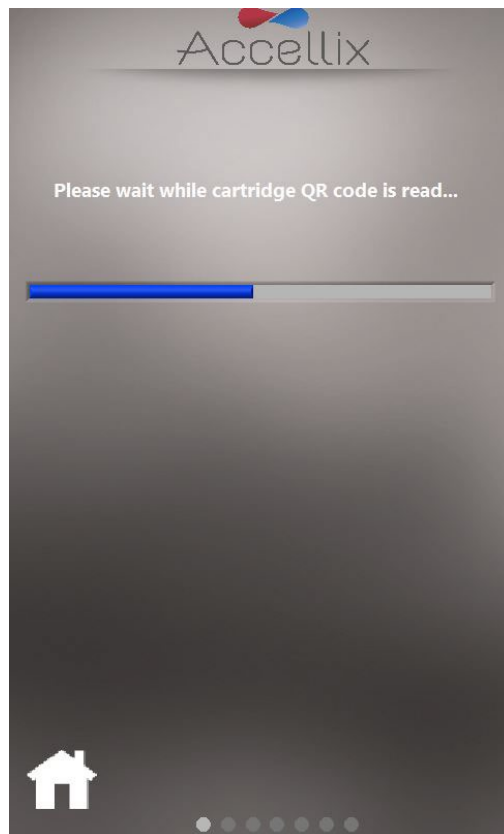

Figure 40: Reading Cartridge QR Code screen
5. The screen instructs the user to wait while the instrument reads and registers the QR code information on the cartridge (Figure 40).